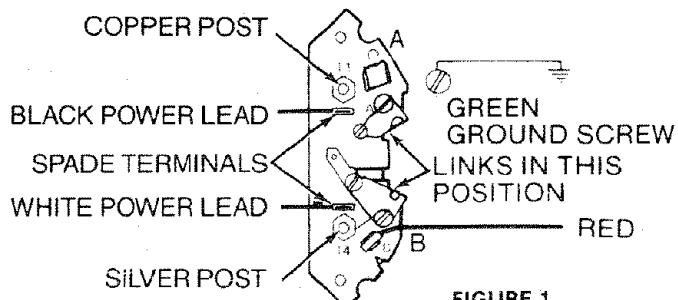

FIGURE 1
- For operation on 120 volts, the black power lead is connected to spade terminal beside copper post. The white power lead is connected to spade terminal beside silver post. The two movable links must be in position shown in Figure 1. The red motor lead is connected to terminal "B."